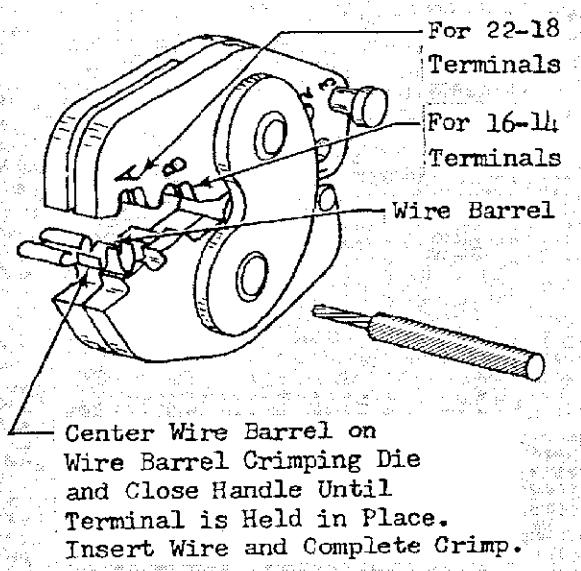

FIG. 3
- (b) Place Terminal in Crimping Jaws as shown in Figure 3. NOTE: Crimp 22-18 Terminal No. 41771 in section of Crimping Jaws marked "A." Crimp 16-14 Terminal No. 41202 in section of Jaws marked "B."